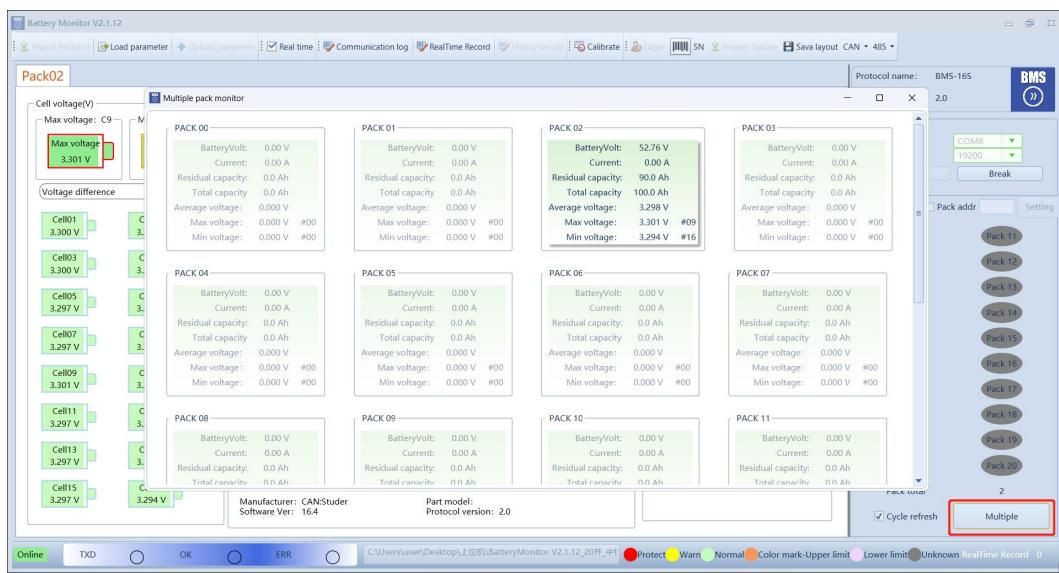

Figure 8-4
- 3) On the upper monitor interface, you can click “Multiple” to view each group of package data,Figure 8-4